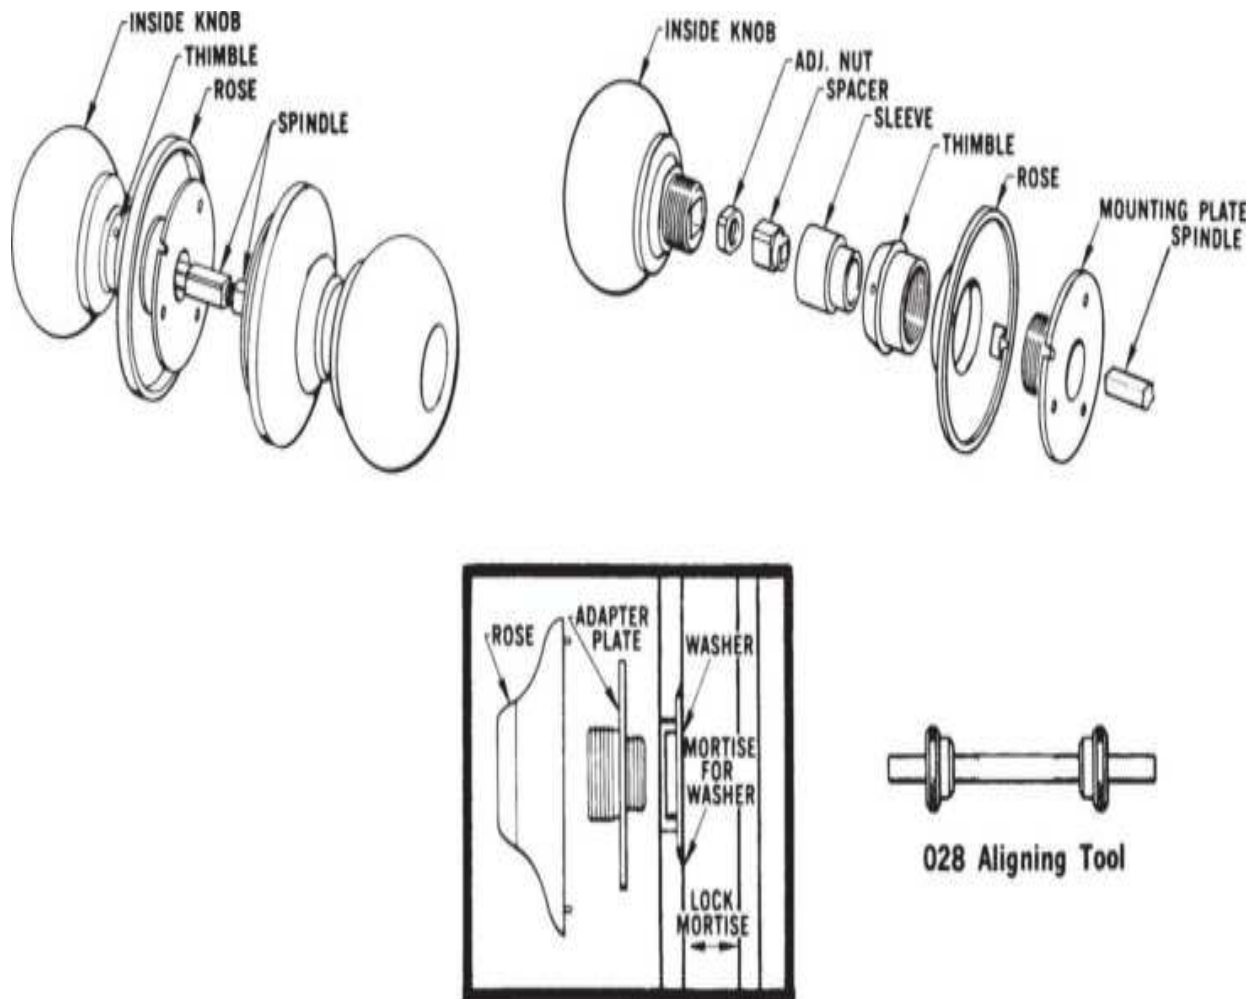

**Figure 13.35** Removing spindle from knob.
**Installing and adjusting the working trim.** Unscrew the spindle. Remove the mounting plates, roses, and thimble from the spindle. Unscrew the sleeve from the inside knob. Remove the spindle from the knob (Fig. 13.35 ).
Align the plates using a No. 028 aligning tool. If this tool is not available, assemble the spindles allowing a  $\frac{1}{16}$ -inch gap between halves of the swivel spindles with mounting plates, sleeve spacer, and adjusting nut in position as shown in Fig. 13.35. Tighten the adjusting nut with your fingers. Mark screw holes through both mounting plates. Install the screws.